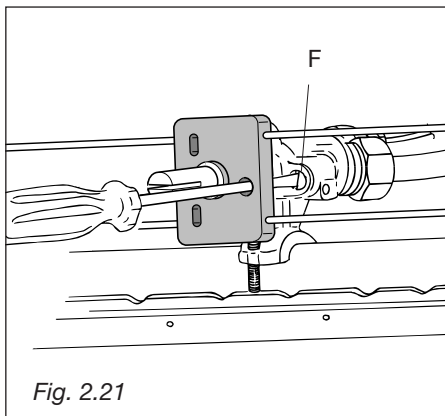

Fig. 2.21
- With a thin screwdriver pass by the hole of microswitch and turn the screw **F** until adjustment is correct (fig. 2.21).